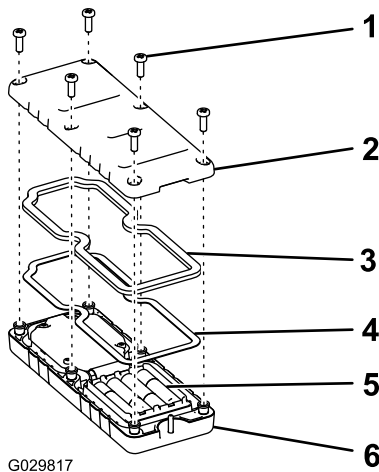

Figure 17
2. Plug each battery into a terminal cradle, observing proper polarity (Figure 17).
3. Ensure that the steel gasket and rubber seal are seated in the channel in the remote and set the back cover in place (Figure 17).
4. Secure the cover with 6 screws (Figure 17) and torque them to 1.5 to 1.7 N·m (13 to 15 in·lb).